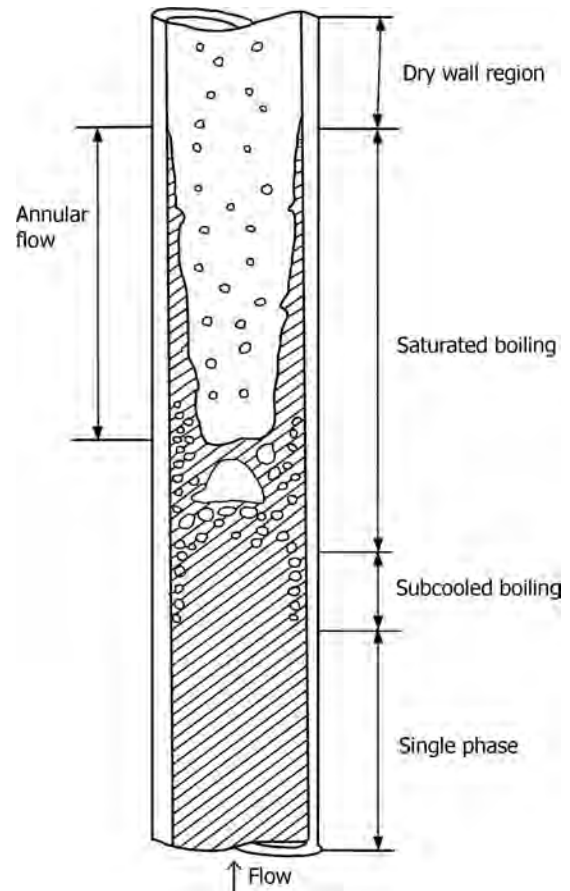

FIGURE 9.15 Heat transfer mechanisms in convective boiling in a vertical tube.
- The mechanisms occurring in convective boiling are quite different from those occurring in pool boiling. The following conditions occur in different parts of the tube as shown in Figure 9.15.